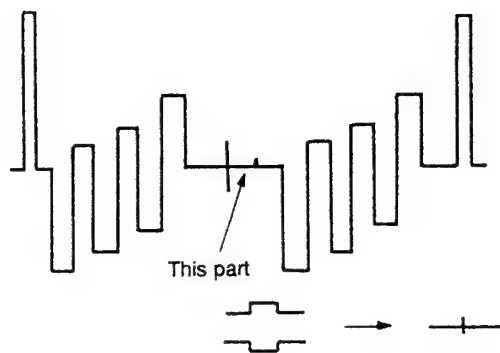

Fig. 2-5.
5. As shown in Fig. 2-5, adjust the B-Y CLAMP OFFSET data so that the pedestal and clamp offset pulse level becomes equal.